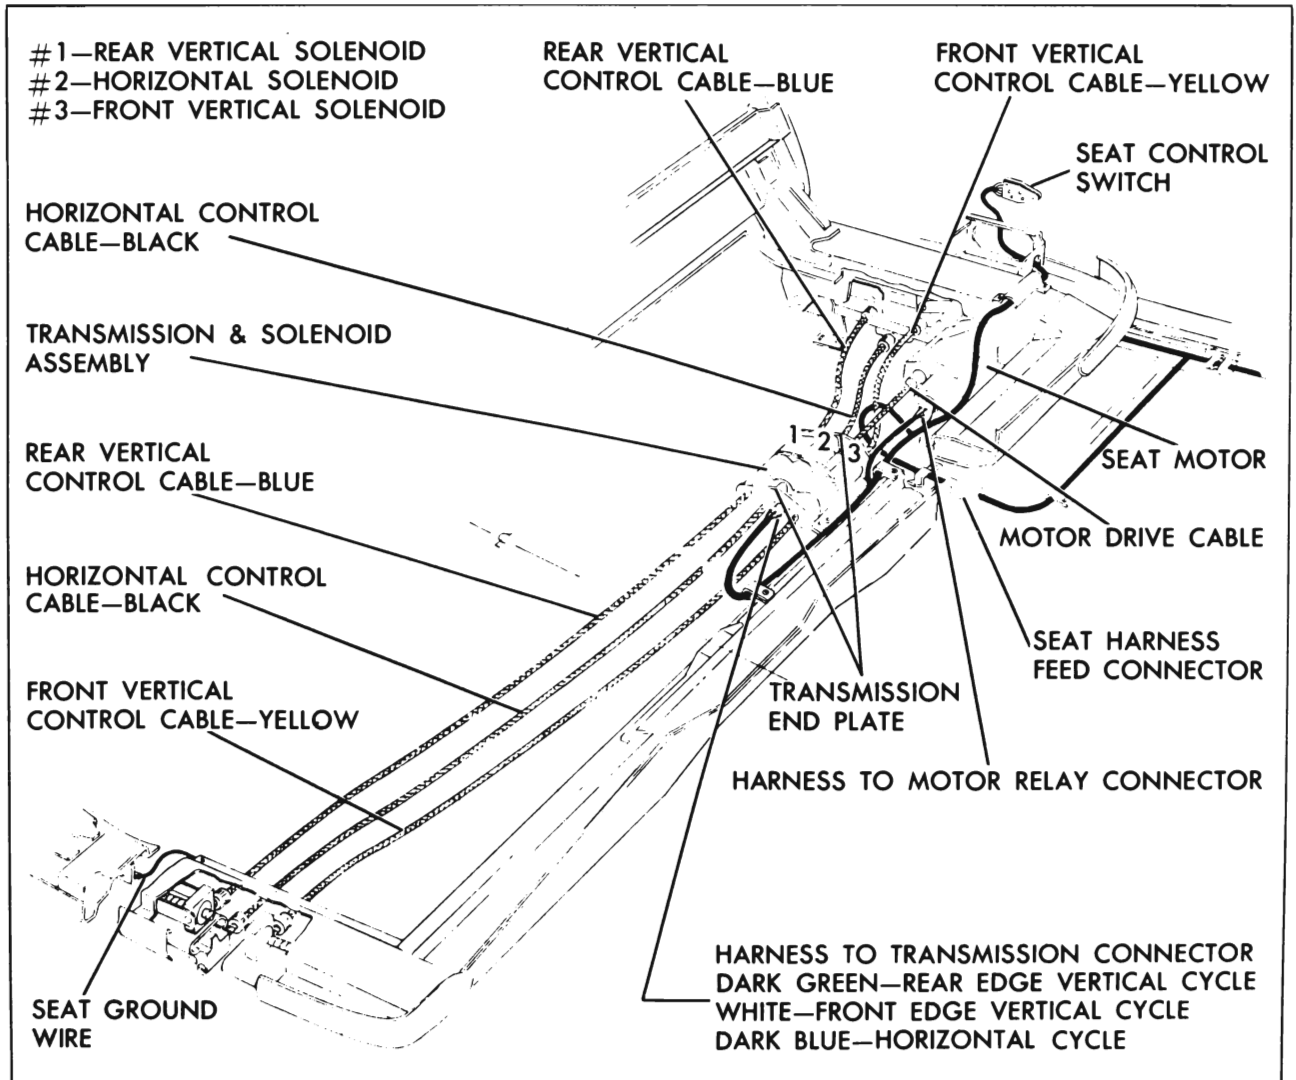

Figure 5-6—Six-Way Seat Installation
manually-operated seat control switch. The large center control knob controls movement of the entire seat assembly horizontally or vertically. The smaller forward control knob controls the vertical movements of the front of the seat assembly causing the seat assembly to tilt. In the same manner, the rear control knob controls vertical movement of the rear of the seat assembly. This seat adjuster operating mechanism incorporates a transmission assembly which includes three solenoids and six drive cables leading to the seat adjusters. Solenoid #1 (Figure 5-6) controls the vertical movement of the rear edge of the seat. Solenoid #2 controls the horizontal movement of the seat. Solenoid #3 controls the vertical movement of the front edge of the seat. In addition to the six seat adjuster drive cables
at the transmission assembly, a motor drive cable is installed from the motor to the transmission assembly (Figure 5-6). When one of the control switch buttons is actuated, the motor and one of the solenoids are energized simultaneously. The solenoid plunger engages the large gears with a driving gear. The driving gear rotates the large gears which rotates the drive cables and operates both adjusters. When the switch contacts are opened a spring returns the solenoid plunger to its original position, disengaging the large gears from the driving gear.
2. Detach the three power drive cables from adjuster to be removed (Figure 5-6).
4. To install horizontal and vertical cables, reverse removal procedure. Make sure cables are installed to correct gear nuts (Figure 5-6).
2. Disconnect wire harness connector from transmission (see Figure 5-6).